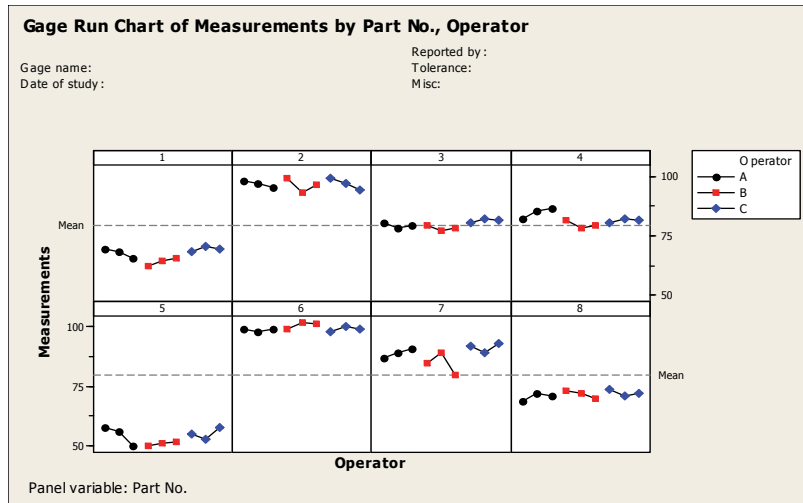

Figure 7.7: A Gage Run Chart of Measurements by Part Number and Operator of GAGE3.MTW
The gage run chart is shown in Figure 7.7.
- (a) Figure 7.7 shows the measurement results for the eight parts by each of the three operators. Each operator measured the parts 3 times (3 trials). Each column in Figure 7.7 represents a part (1 through 8). Within each column, the measurements by 3 operators are represented by different symbols. The dotted lines represent the mean of the measured values. This mean line (or the reference line) helps to see :
- (b) Figure 7.7 shows that part-to-part variation is dominant. The measurements for parts 3 and 4 are close to the reference line. For all the other parts, the measurements are above or below the reference line. In fact, the measured values are far away from the reference line for all the parts except parts 3 and 4. If there is a significant variation from part-to-part,.....
- (d) We can also check the reproducibility from the run chart in Figure 7.7. Reproducibility is the variation due to different operators using the same measuring instrument at different time periods or under different .....